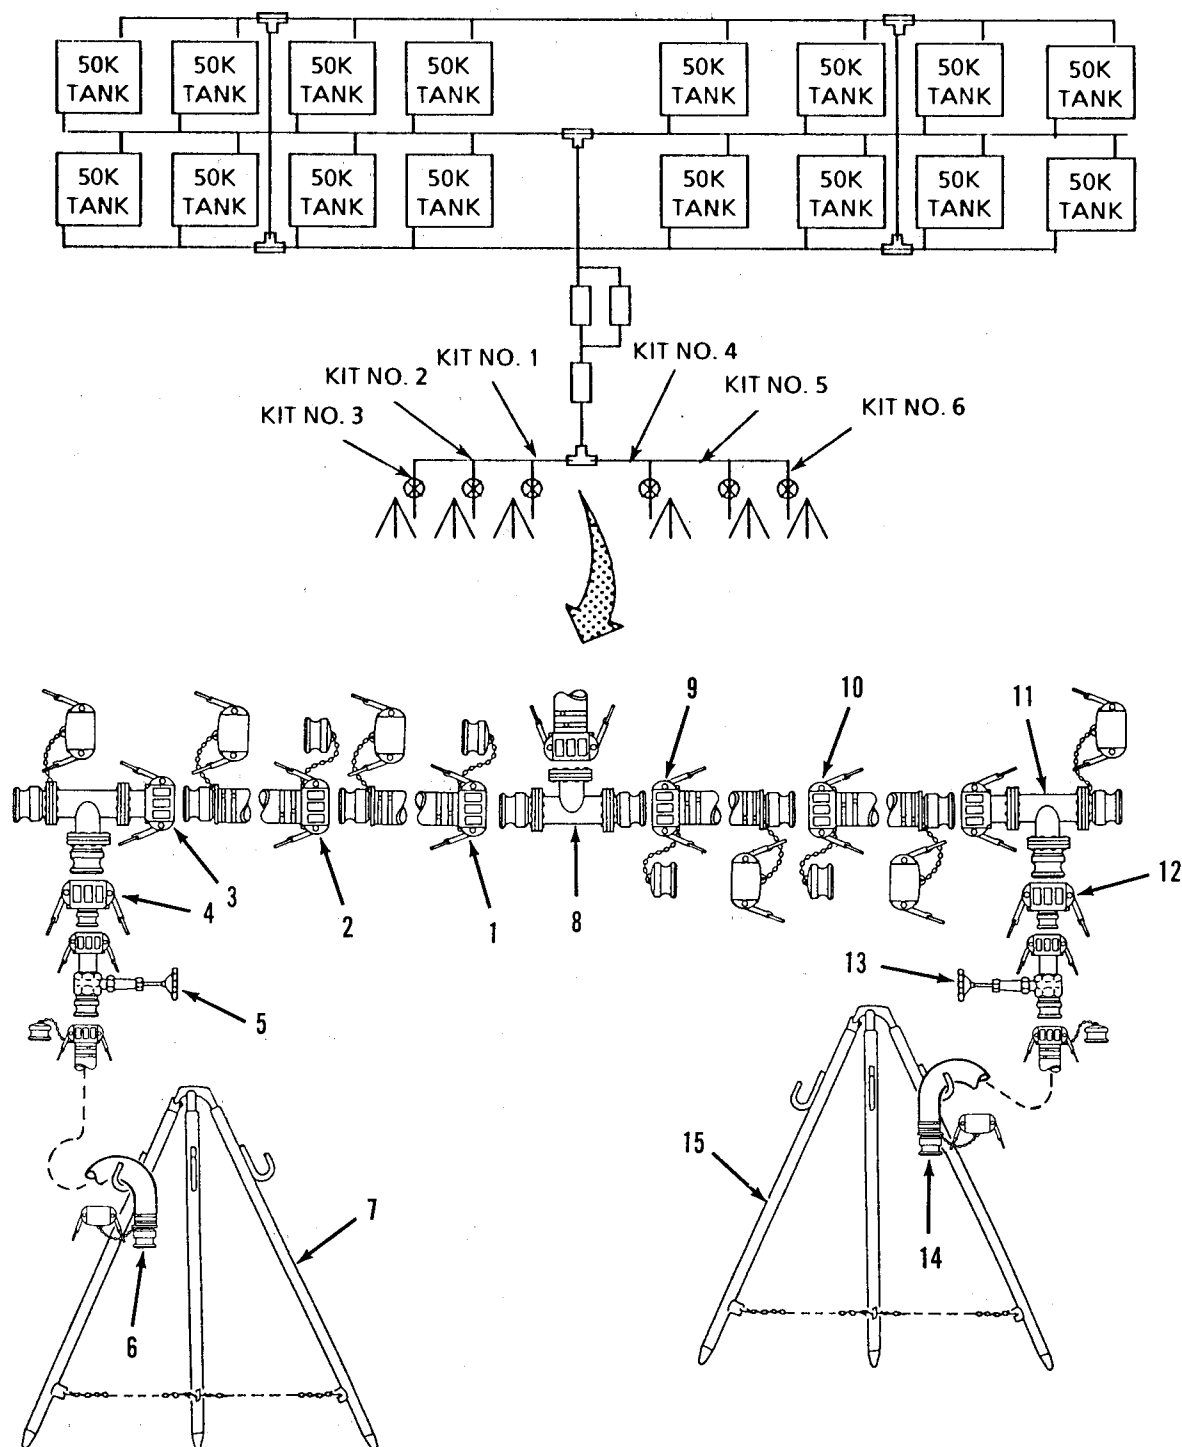

Figure 2-19. 2-Inch Hose Connection Kit Assembly.
- I. Assemble 2-Inch Hose Connection Kits. Refer to figure 2-19.